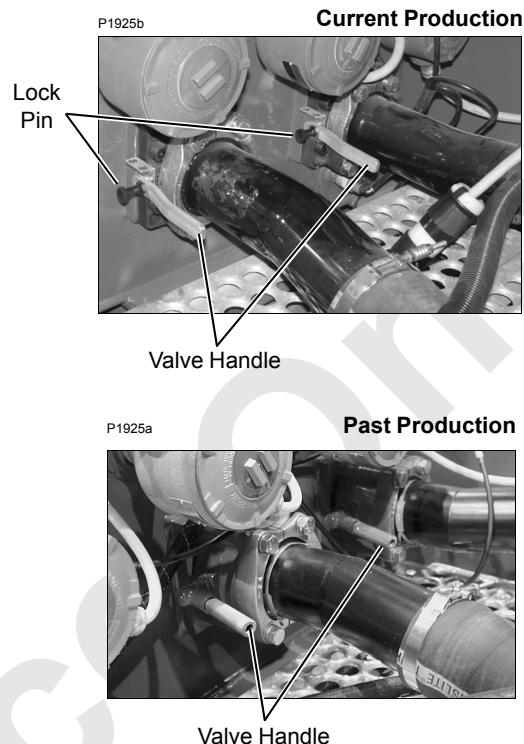

FIGURE 3-16
2. Open hydraulic tank shut-off valves (Figure 3-16).